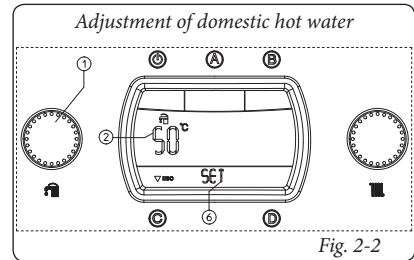

Fig. 2-2
- **Summer (☀️):** in this mode the boiler functions only to heat domestic hot water. The temperature is set using the selector switch (1) and the relative temperature is shown on the display (24) by means of the indicator (2) and the "SET" indication appears (Fig. 2-2). By turning the selector switch (1) in a clockwise direction the temperature increases and in an anti-clockwise direction it decreases.